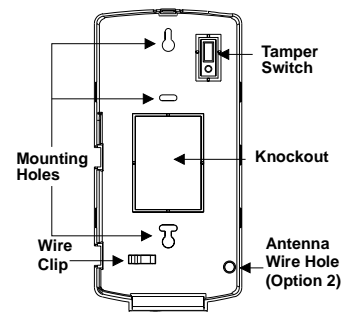

Figure 2. Back Mounting Plate
- When you mark the back mounting plate's two mounting holes, also mark where the antenna hole is (see Figure 2 for antenna wire hole location).
The DTIM uses a 3-2-1 tamper switch activation sequence for learning, which causes the LED to blink in a corresponding 3-2-1 sequence. You must wait for the LED to turn off after each flash sequence before releasing the tamper switch (see Figure 2).